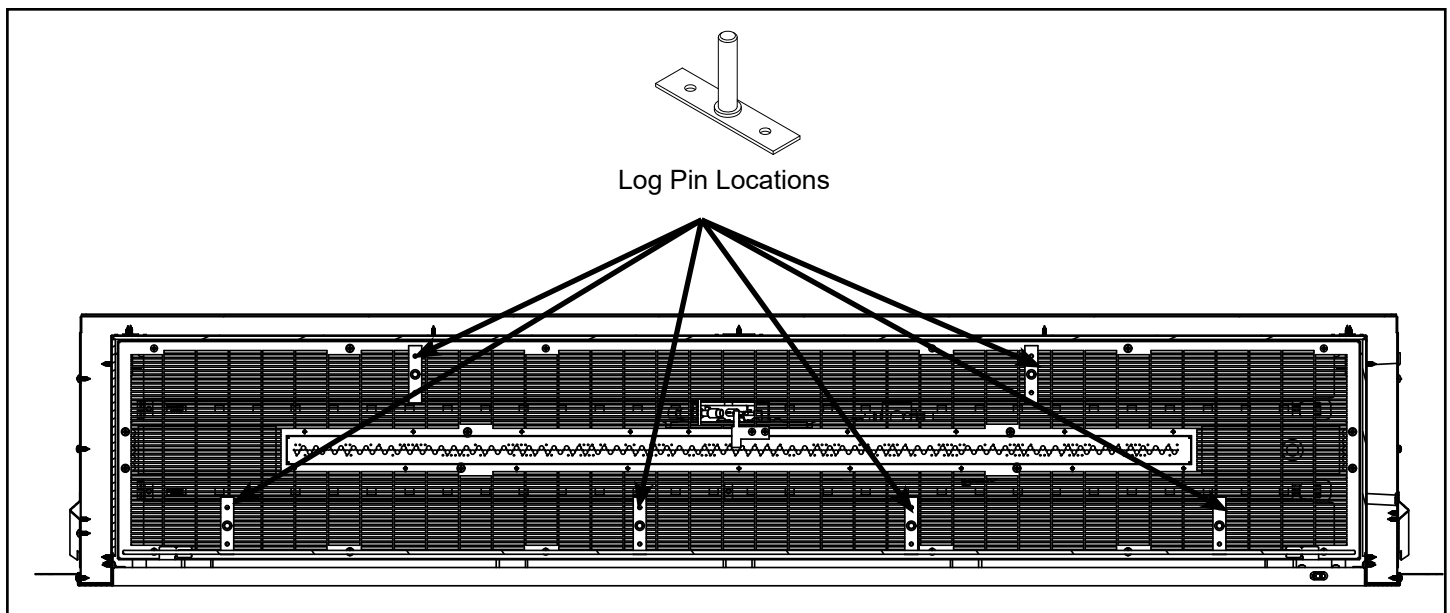

Figure 7.7 – Log Pin Placement for AVFL60N(P)IF AND AVFL72N(P)IF
1. Mount the six log support pin brackets using mounting holes and screws provided in locations indicated in Figure 7.7 for the front logs and rear log. Only one hole of the pin bracket will be used to secure the pin to the